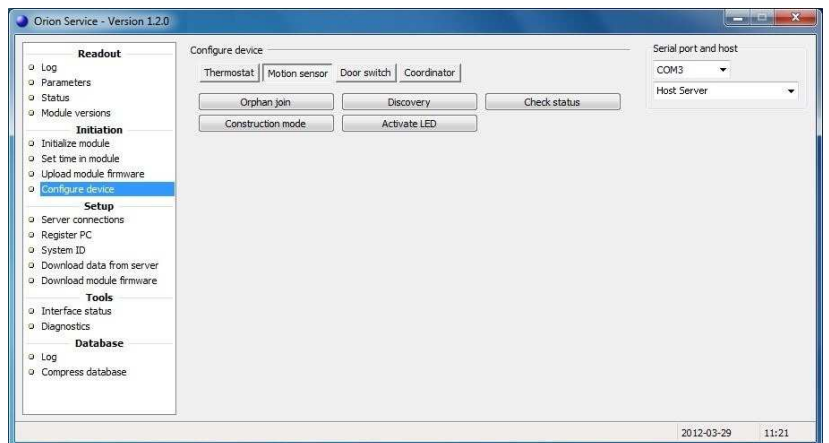

Figure 30
7. Go to the **Configure device** section in the left part of the Orion Service software window and choose the **Motion sensor** tab. Make sure that the service cable is plugged into the motion sensor and click the **Activate LED** button; see Figure 30.